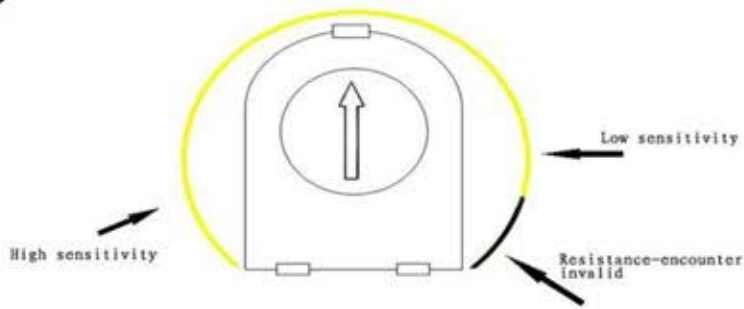

Fig 17
7.1 Gate open blocked detection: Fig 17